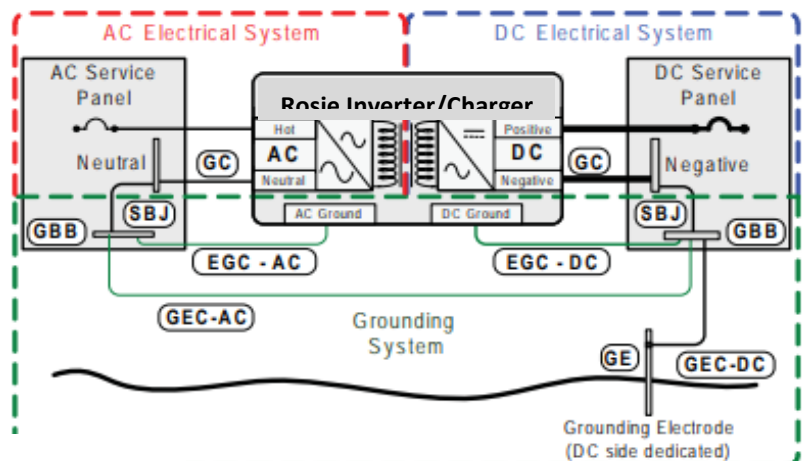
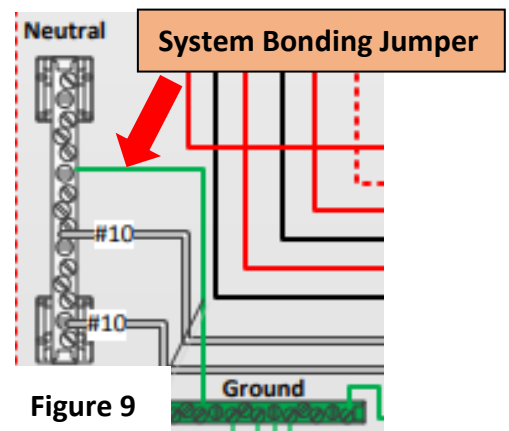

Figure 8
Figure 9
- **Equipment Grounding** – Grounding for exposed metal parts, like the inverter chassis, solar panel frames, etc. **See Figure 8.**
- **System Grounding** – The bonding of a current-carrying wire to earth ground, such as the two SBJs shown in **Figure 8** or the single SBJ shown in **Figure 9.**
Reference **Figure 8** below for grounding system terminology.
System Bonding Jumper (SBJ) – The connection between the Grounded Conductor (GC) and the Equipment Grounding Conductor (EGC). **Figure 9** shows an SBJ from a MidNite E-panel, in this case it's a Neutral-to-Ground bond.